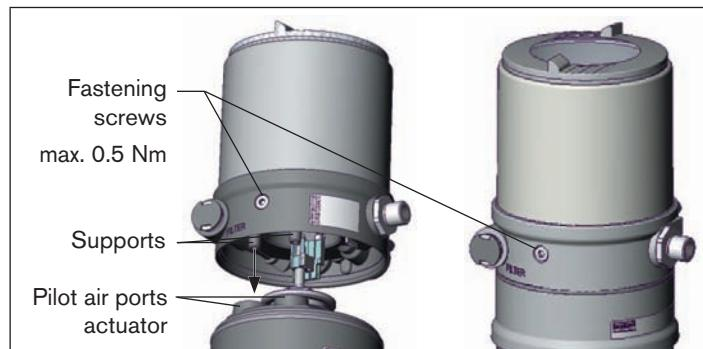

Fig. 15: Install control unit
2. the supports of the control unit can be inserted into the pilot air ports of the actuator (see also "Fig. 15").